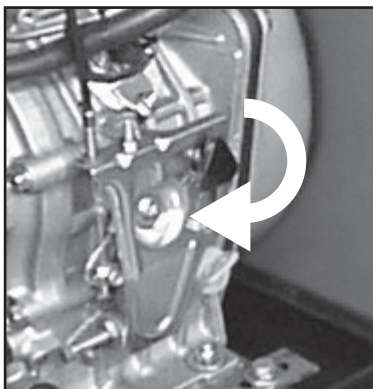

Fig.4
- 1) Set the accelerator control – placed on the engine (see fig. 4) – downwards (max rpm).